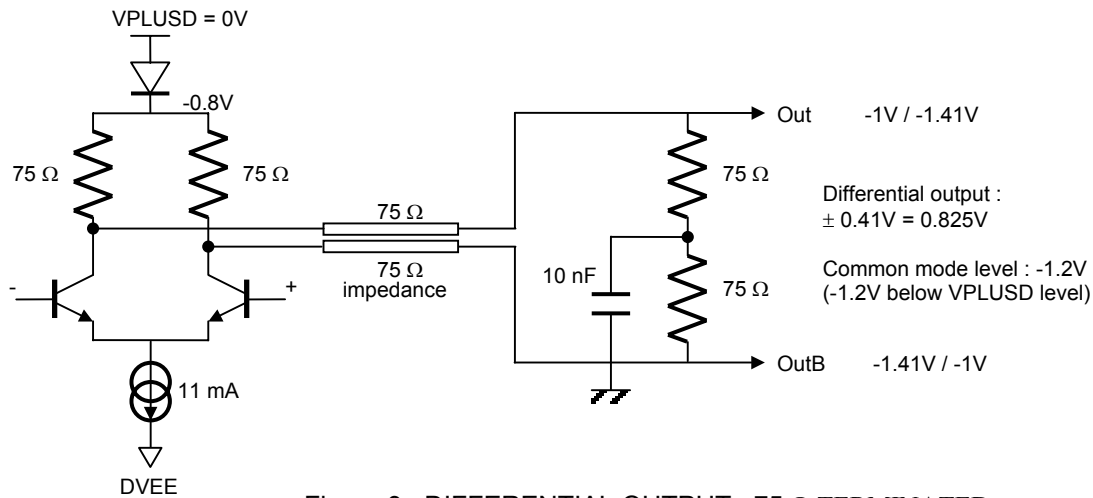

Figure 3 : DIFFERENTIAL OUTPUT : 75 Ω TERMINATED
The TS8388BFS differential output buffers are internally 75 ohms loaded. The 75 ohms resistors are connected to the digital ground pins through a -0.8V level shift diode (see Figures 3,4,5 on next page).
1) 75 Ohms impedance transmission lines, 75 ohms differentially terminated (Fig. 3) :